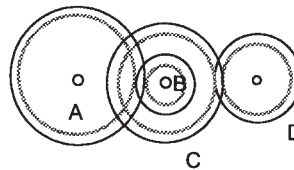

Figure 27.27 Problem 19
- 19 A compound gear train of the form shown in Figure 27.27 has an input gear A with 60 teeth and A engaging with wheel B having 20 teeth. Wheel B is on the same shaft as wheel C which has 40 teeth and engages with wheel D on the output shaft with 50 teeth. Determine the overall velocity ratio of the system and the number of revolutions per second that D will make when A revolves at 5 rev/s.